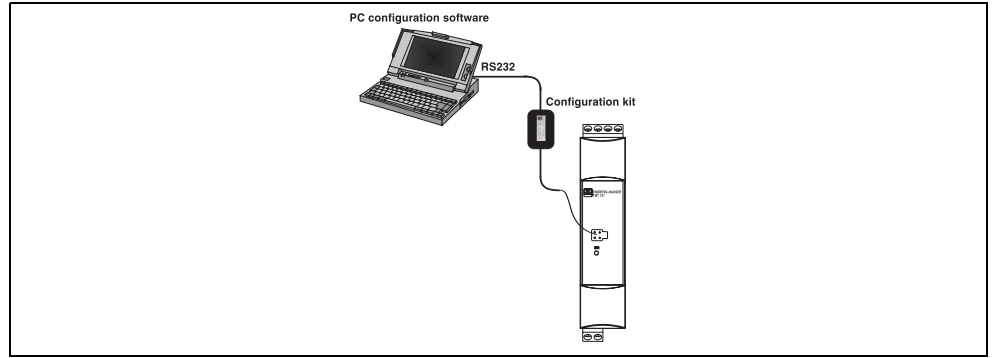

Fig. 6: Connection to PC for configuration
1. Connect the SETUP connector of the interface connecting cable to the SETUP plug on front of the DIN rail transmitter (see 'Fig. 6' in Chapter 4.2).